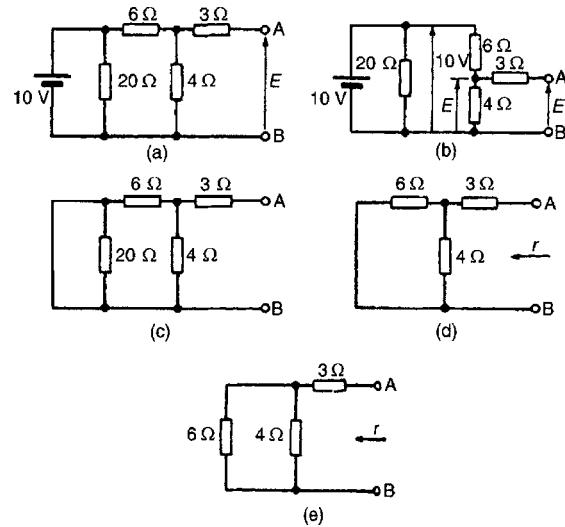

Figure 13.33
(v) For the circuit shown in Fig. 13.33(a), the 3Ω resistor carries no current and the p.d. across the 20Ω resistor is 10 V . Redrawing the circuit gives Fig. 13.33(b), from which
- (vi) If the 10 V battery in Fig. 13.33(a) is removed and replaced by a short-circuit, as shown in Fig. 13.33(c), then the 20Ω resistor may be removed. The reason for this is that a short-circuit has zero resistance, and 20Ω in parallel
with zero ohms gives an equivalent resistance of $(20 \times 0)/(20 + 0)$ i.e. 0Ω . The circuit is then as shown in Fig. 13.33(d), which is redrawn in Fig. 13.33(e). From Fig. 13.33(e), the equivalent resistance across AB,